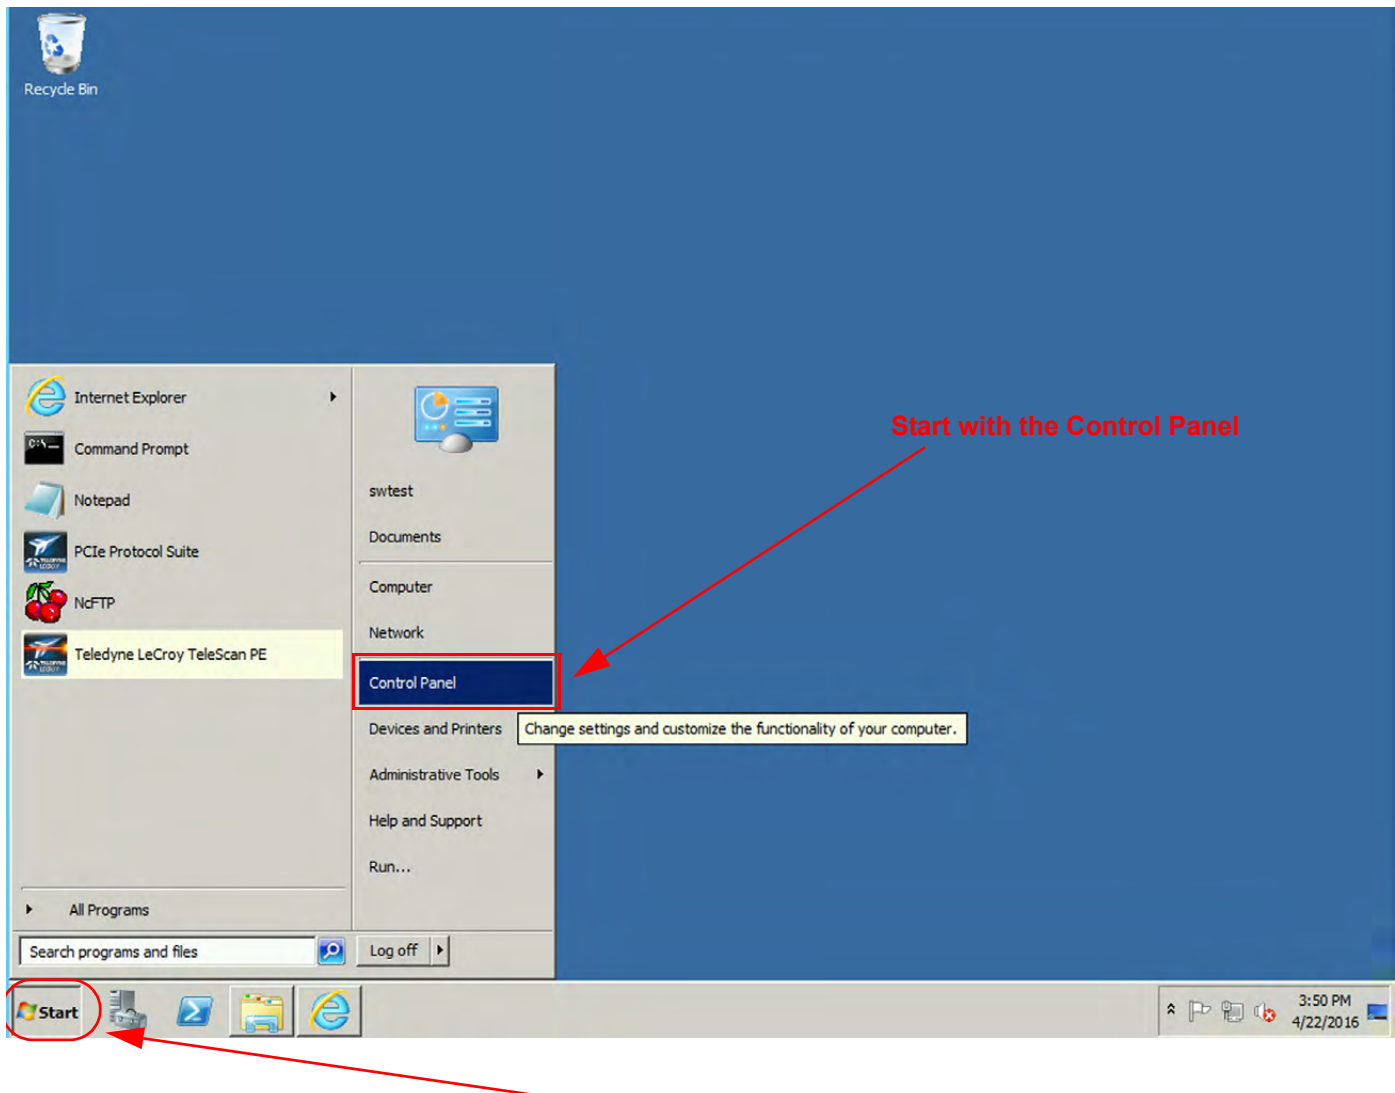

Figure 3.10: Windows Server 2008: Start Menu -> Control Panel
1. Open the Control Panel. See Figure 3.10.